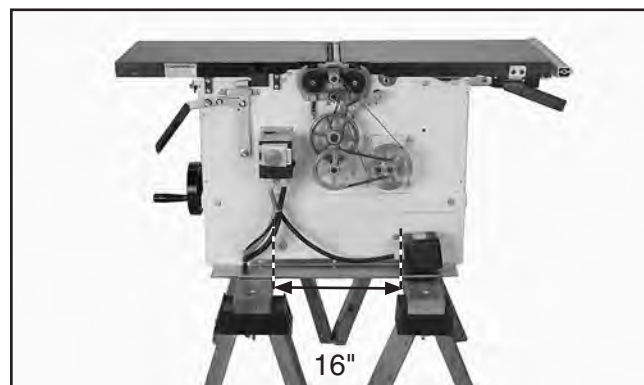

Figure 84. Machine supported by sawhorses.
6. While an assistant steadies the jointer tables, lift the machine off of the base and set it onto the sawhorses, as shown in **Figure 84**.